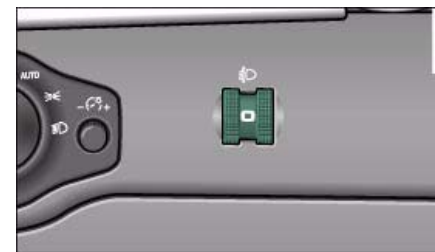

Fig. 53 Headlight range control
- Turn the thumbwheel  ⇒ page 56, fig. 53 to the appropriate setting.